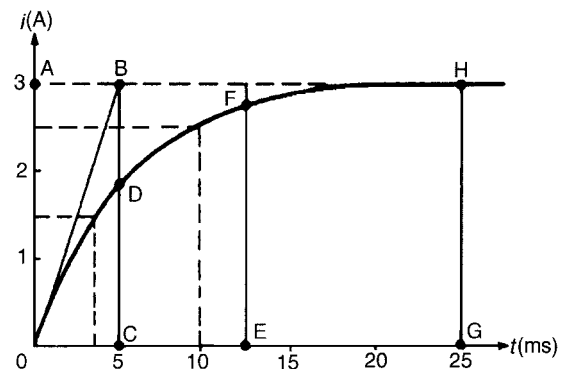

Figure 18.11
- With reference to Fig. 18.11, the initial slope is obtained by making AB equal to 1 time constant, (i.e. 5 ms), and joining OB.